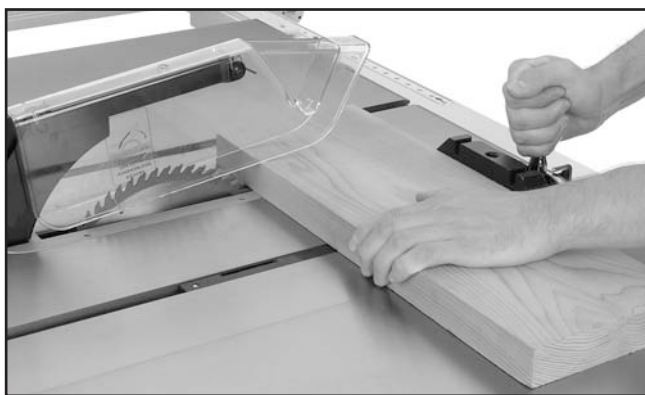

Figure 51. Typical crosscutting operation.
7. Hold the workpiece firmly against the face of the miter gauge (**Figure 51**), and ease it through the blade until the workpiece is completely past the saw blade.